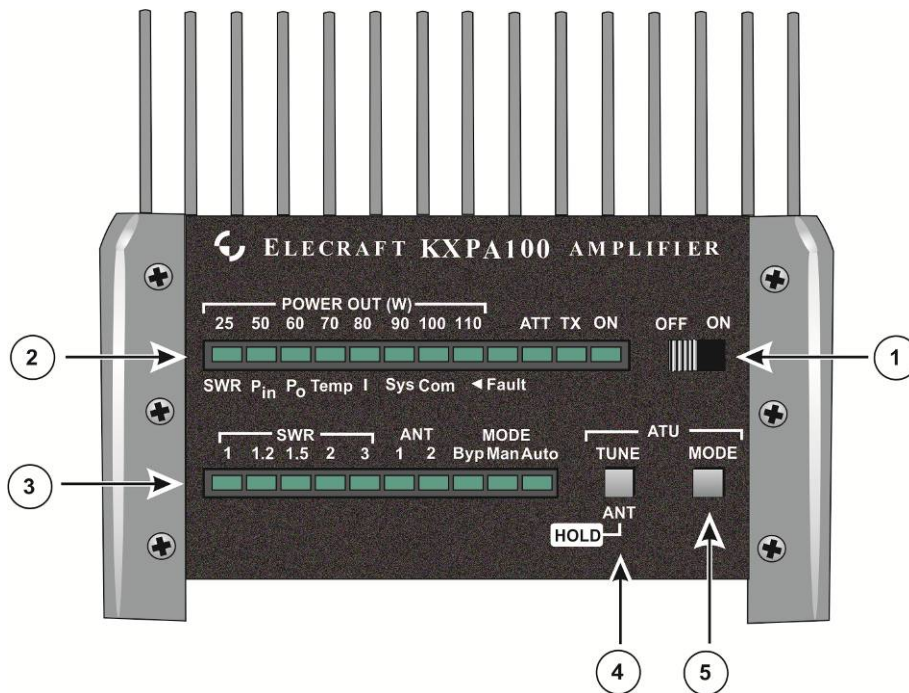

Figure 7. Front Panel Controls and Indicators
**If the station power supply is energized, be sure the power switch on the front panel (see Figure 7 on page 19) is in the OFF position before proceeding.**
① **Ground Connection:** Connect the station ground to the thumbscrew. A good station ground with short, direct leads connecting each piece of equipment is important for consistent, reliable operation.
② **DC Power Connection:**
- ① **Ground Connection:** Connect the station ground to the thumbscrew. A good station ground with short, direct leads connecting each piece of equipment is important for consistent, reliable operation.
- ② **DC Power Connection:**
The front panel controls and indicators are shown in Figure 7 and are described in the following text.